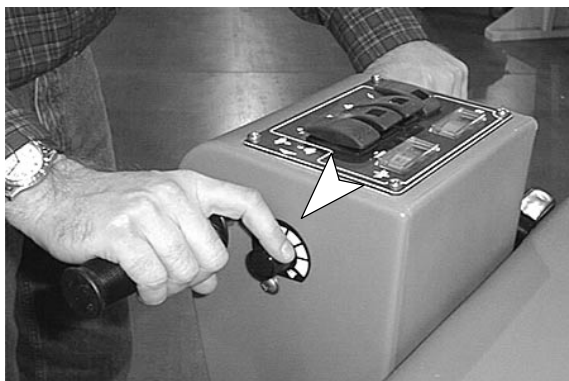

FIG. 14
7. Before starting, turn speed control knob to slowest setting (*Figure 14*).
8. Begin scrubbing by rotating control grips forward. Gradually increase your speed by turning speed control knob forward (*Figure 14*).